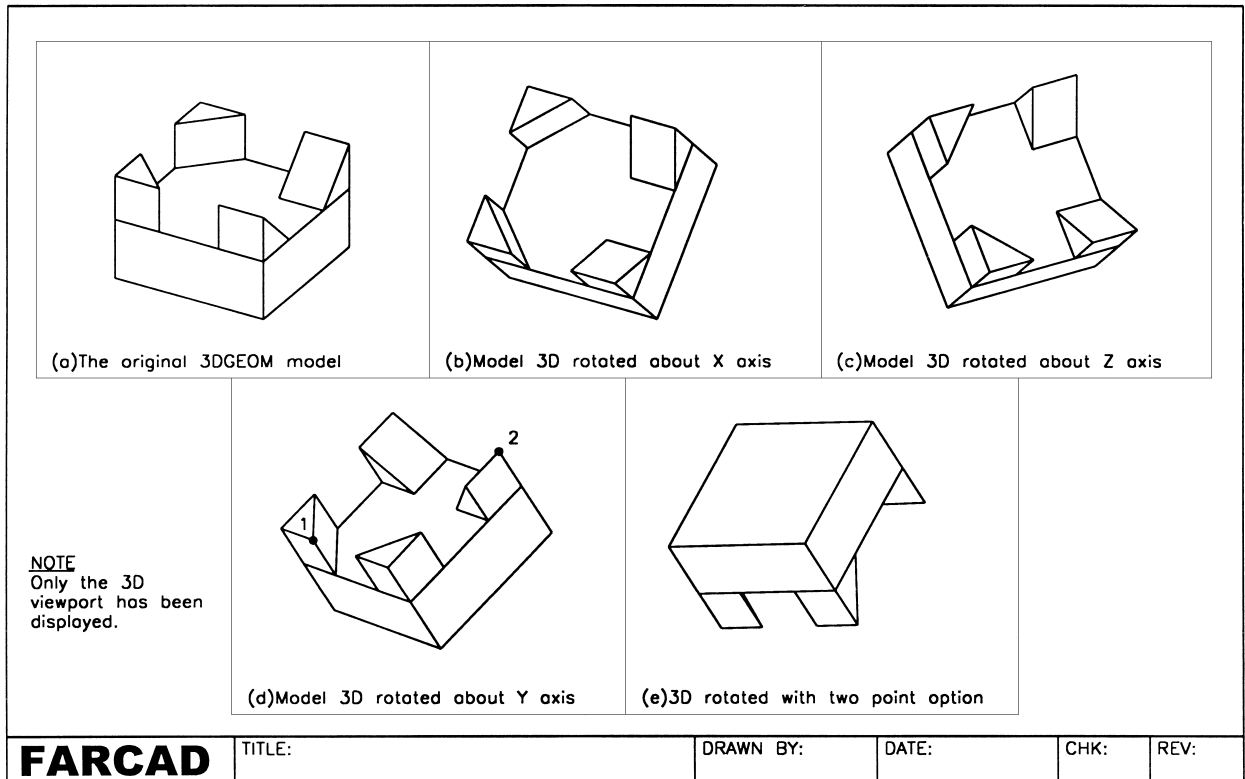

Figure 22.2 The ROTATE 3D command using 3DGEOM model.
- 1 Model 3DGEOM on the screen in model tab with UCS BASE and layer MODEL current. Refer to Fig. 22.2 (3D only)